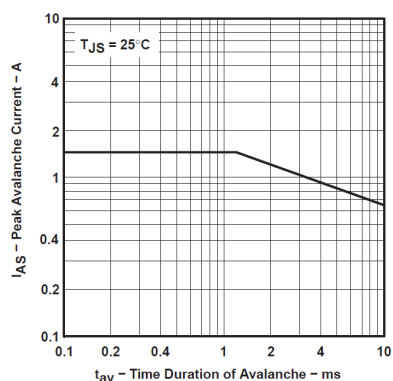

Figure 5-1. Peak Avalanche Current vs. Time Duration of Avalanche
- (1) Operation outside the Absolute Maximum Ratings may cause permanent device damage. Absolute Maximum Ratings do not imply functional operation of the device at these or any other conditions beyond those listed under *Recommended Operating Conditions*. If used outside the Recommended Operating Conditions but within the Absolute Maximum Ratings, the device may not be fully functional, and this may affect device reliability, functionality, performance, and shorten the device lifetime.
- (2) All voltage values are with respect to network ground terminal GND.
- (3) Pulse duration $\leq 100\mu\text{s}$, duty cycle $\leq 2\%$
- (4) DRAIN supply voltage = 15V, starting junction temperature (T_{JS}) = 25°C , $L = 100\text{mH}$, $I_{AS} = 1\text{A}$ (see Figure 5-1).
- (5) See Dissipation Table